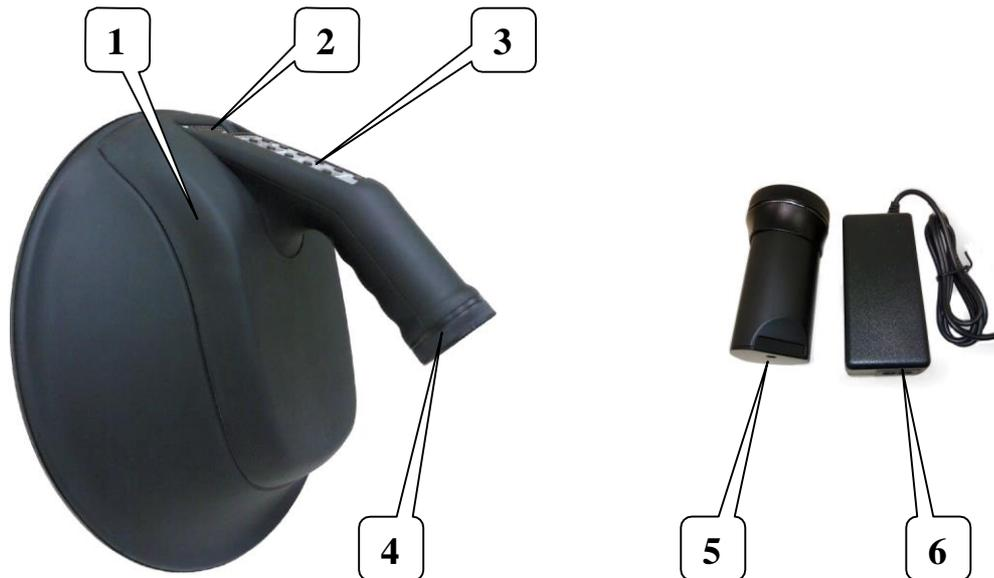

Fig. 1
Appearance of NLJD is given in Fig 1, where:
**4.5.** Battery charging of the duplex antenna unit is to be made with the charger included to the delivery set only. Using other chargers is not allowed. For charging it is necessary to unscrew a cover at the edge of NLJD's arm, remove a battery and place it into the container for charging (Fig.1). Connect the container to the charger.